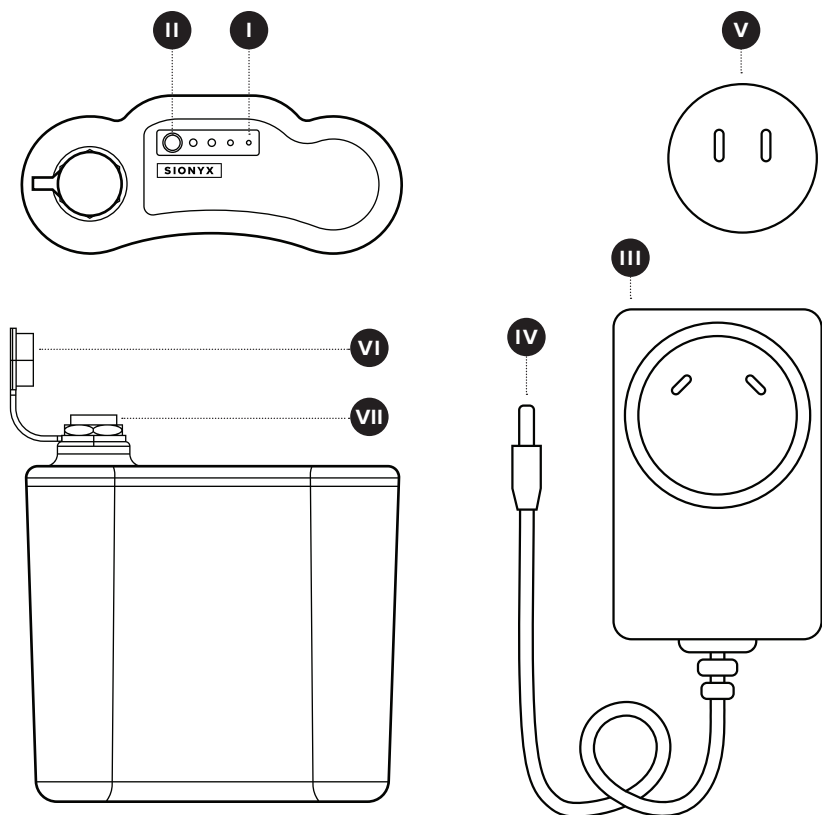

FIGURE 2:
1. Refer to **FIGURE 2**. Press the **BATTERY LEVEL BUTTON** to determine the battery's level of charge. A fully charged battery will display 4 green lights in the **BATTERY LEVEL INDICATOR**.
1. Refer to **FIGURE 2**. Ensure your **BATTERY** is fully charged before attempting to connect to your device.